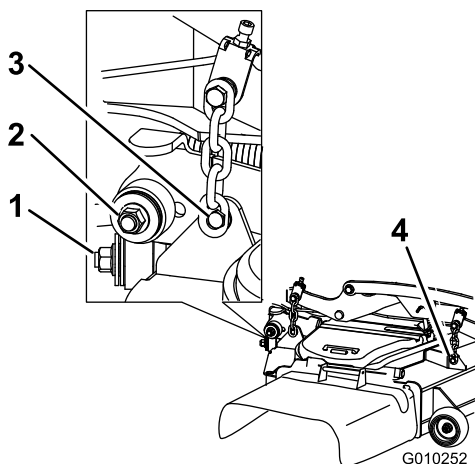

**Figure 100**
5. Lift up the floor pan and insert a ratchet into the square hole in the deck idler (Figure 100).
6. Rotate the deck idler clockwise and remove the mower belt (Figure 100).